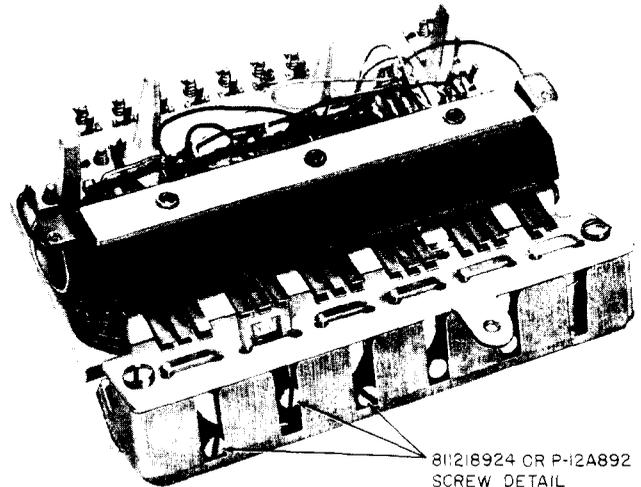
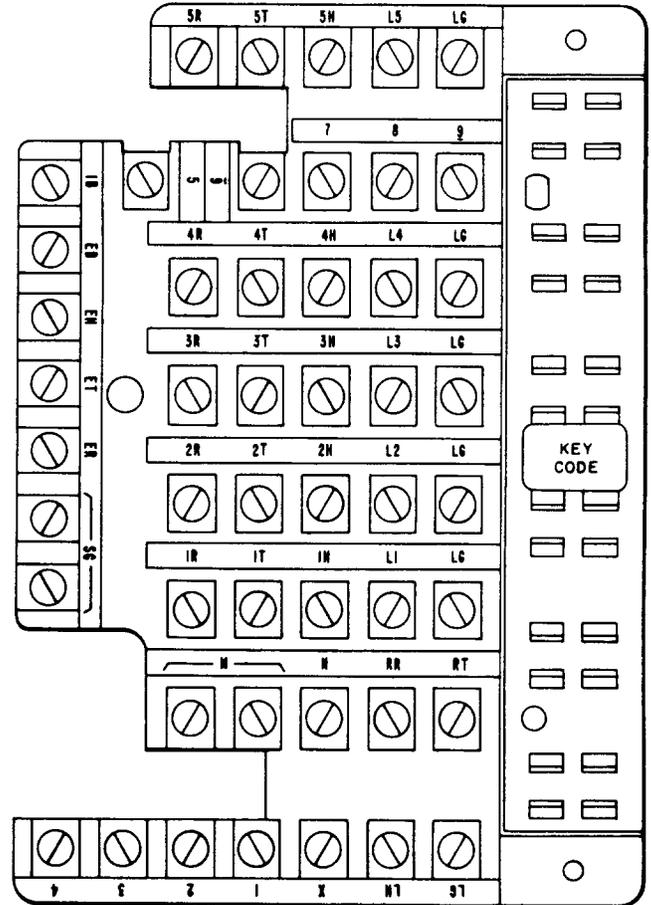
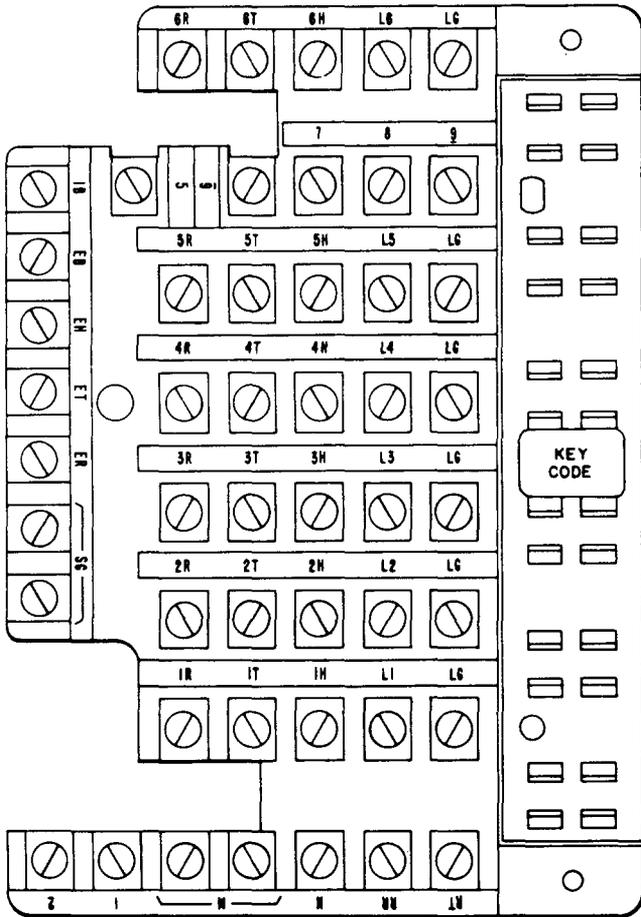

Fig. 1—636A Key, Bottom View
Fig. 2—Terminal Board for the 636A and 589Y Key
Fig. 3—Terminal Board for the 636B Key
2.01 The 636-type key (Fig. 1) has a terminal board arrangement to accommodate matching cord terminal wafers, so that any line connected to the set can be interchanged readily to appear on any five line pickup keys. See Fig. 2 and 3 for terminal designations on the 636A and 636B, respectively.
2.03 Certain pickup buttons on 6-button sets are arranged for conversion to signaling. To convert, remove 811218924 (P-12A892) screw detail (Fig. 1) and make necessary wiring changes. Table A shows key and associated telephone sets with convertible buttons.
2.25 The 589Y and 636A use 814319836 (P-43A983) terminal board (Fig. 2). The 636B uses the 814454005 (P-44E400) terminal board (Fig. 3).